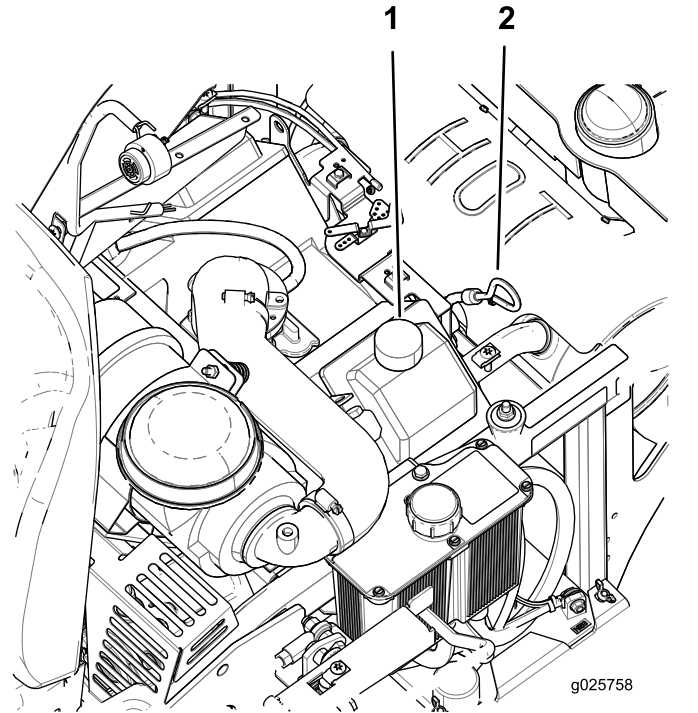

Figure 33
5. Clean the area around the dipstick (Figure 33).
9. If the oil level is low, wipe off the area around the oil-fill cap, remove cap and fill to the full mark on the dipstick (Figure 33).
4. Slowly pour approximately 80% of the specified oil into the filler tube and slowly add the additional oil to bring it to the **full** mark on the dipstick (Figure 33).
5. Start the engine and drive to a flat area. Check the oil level again (Figure 33).